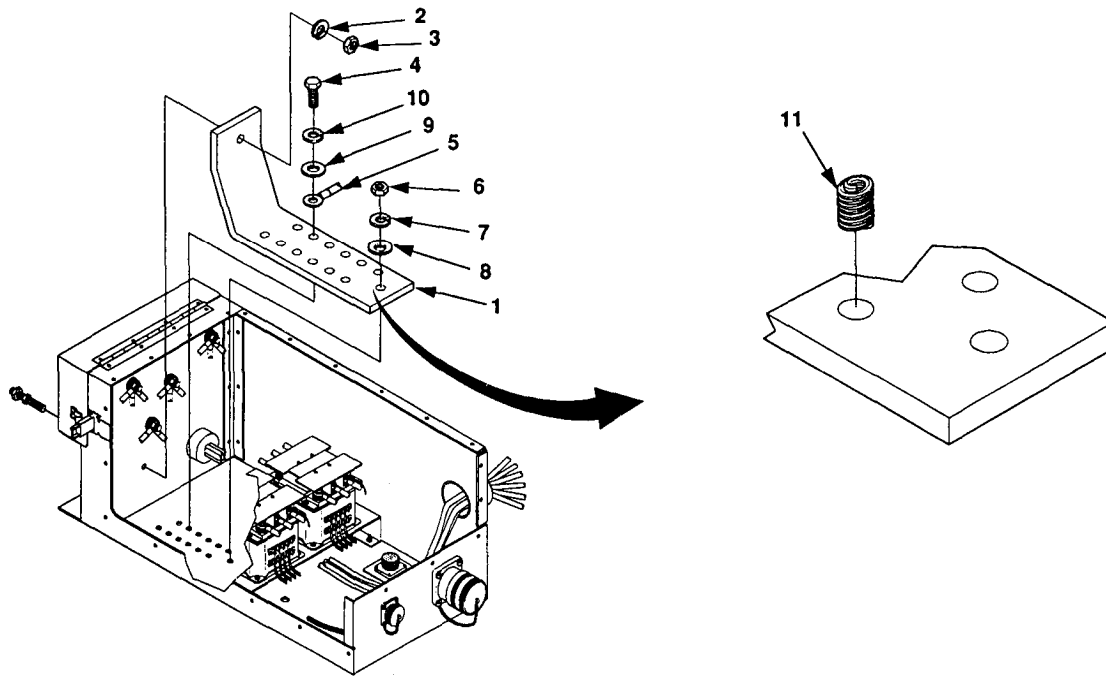

Figure 5-14. Bus Bar Maintenance
5. Remove cap screws (4, figure 5-14), lock washers (10), flat washers (9) and electrical leads (5) from bus bar (1).
6. Remove nut (3) and lock washer (2).
7. Remove nut (6), lock washer (7), and flat washer (8) and bus bar (1).
1. Position bus bar (1, figure 5-14) in place.
2. Install flatwashers (8), newlock washers (7) and nut (6).
3. Install lock washers (2) and nut (3).
4. Install leads (5), flat washers (9), lock washers (10) and cap screws (4).